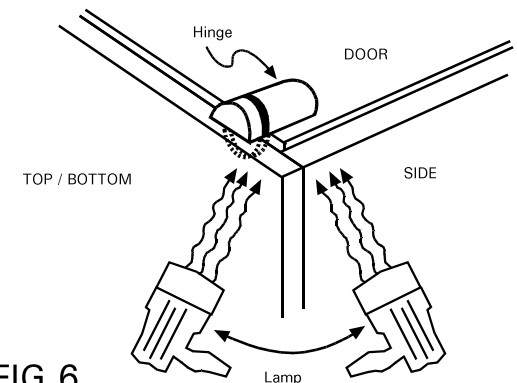

FIG 6
11. Hold the hinge between thumb and forefinger securely and place in the desired position on the carcass. Exert the necessary diagonal pressure to obtain suitable bonds on both faces prior to introducing the UV light source so that it cures the faces simultaneously to obtain the necessary pre-cure approx. 15 sec (see Fig. 6).